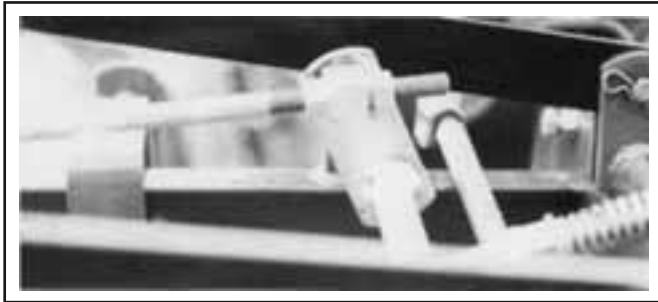
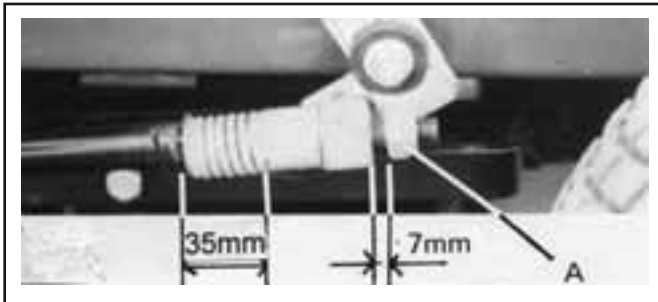

Fig. 16
Fig. 17
3. Adjust Push Rods *Fig. 16* to give a spring compression of 35mm. *Fig. 17*
4. Adjust Locknut 'A' to give 7mm clearance to back of Swivel Block. *Fig. 17*